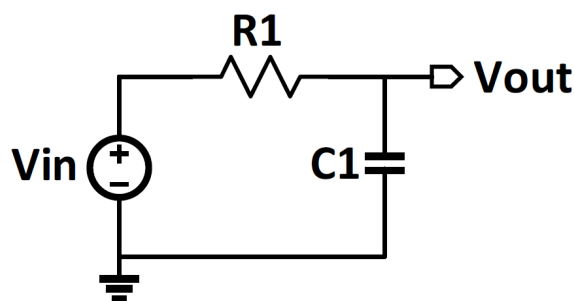

Figure 4: First Order RC Filter
1. Consider the first order RC circuit shown in Fig. 4. Compute the value of **C** so that the **3 – dB** cut-off frequency is at **160Hz**.
2. Draw the circuit shown in Fig. 4 in LTspice. Use the capacitor value that you calculate above.